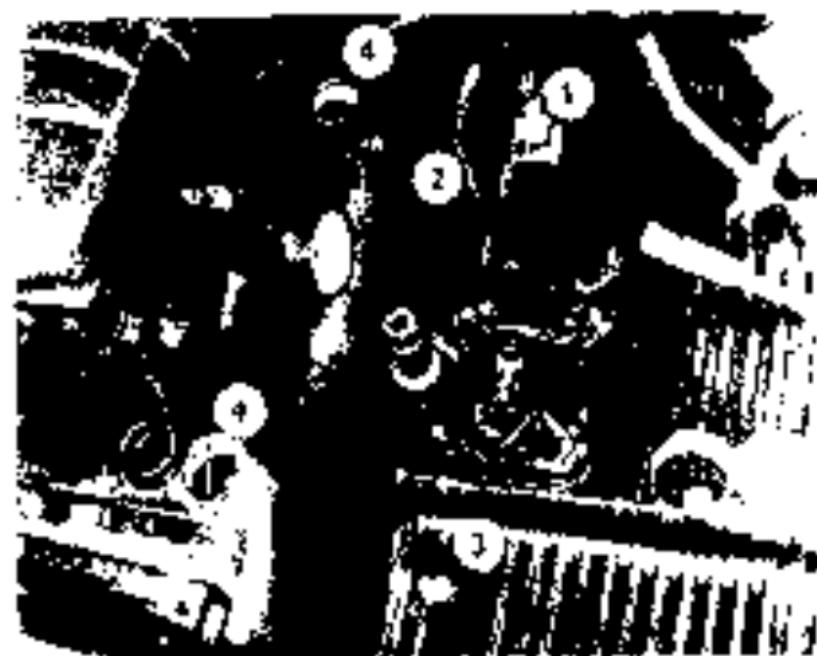

Fig. 21
13. Front drive engagement lever (Fig. 21/2).
3. Differential lock pedal (Fig. 21/3).
5. Torque multiplier pedal (Fig. 21/1).